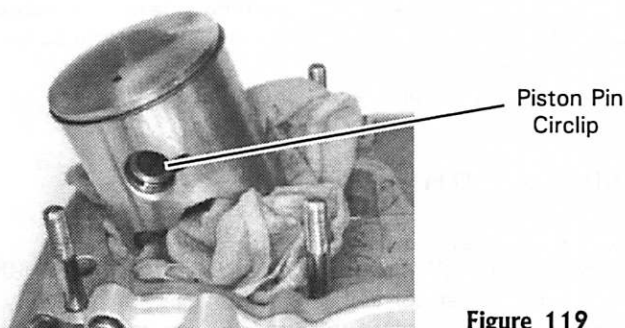

Figure 119
7. Install new piston pin circlips (Figure 119). Use the circlip installation pusher (part No. 877 010) and the circlip installation sleeve (part No. 877 020). Position the circlips so that their opening faces down. Check that both circlips seat in their grooves completely.